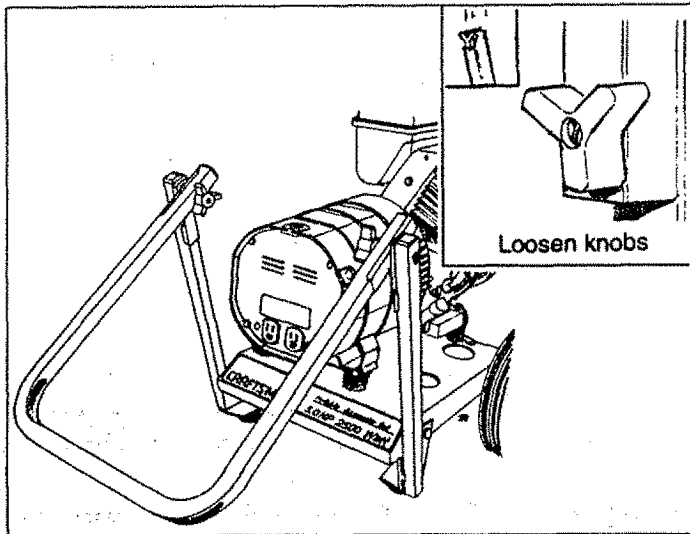

FIG. 1
- Loosen knobs of the guide handle as shown in Fig. 1.
- Raise the guide handle as also shown in Fig. 1 and tighten the knobs to hold the handle in place.